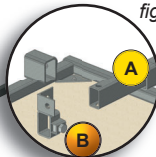

fig. 3.34
- A** 3- Insert the outriggers in the front outrigger pockets on the deck extension by a few inches (centimeters) only (fig. 3.34).